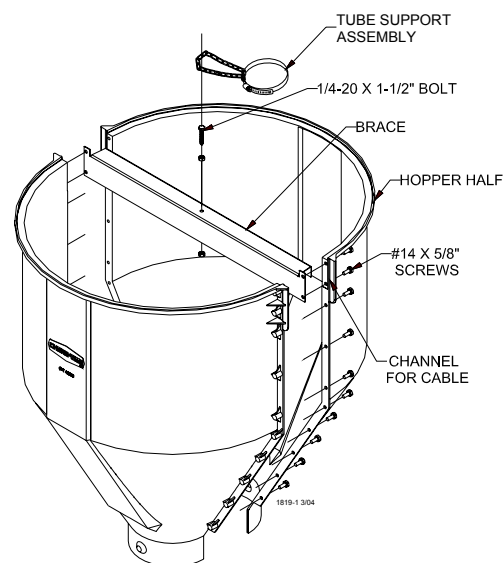

Figure 14.
1. Assemble the 1/4-20 x 1-1/2" bolt to the brace with two 1/4-20 nuts. One nut should be assembled under the brace with the other on top. This bolt is to provide a place for the tube support assembly chain to be hooked, see figure 14.
2. Assemble the 150 lb. hopper halves and brace as shown in Figure 14, using #14 x 5/8" screws (supplied in hardware package).